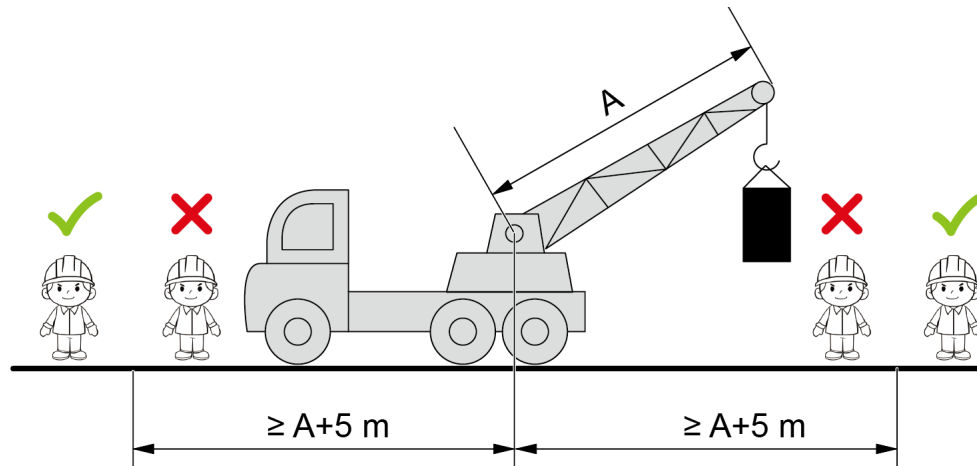

Fig. 3-1 Crane lifting
- Unauthorized personnel are strictly prohibited from entering the exclusion zone. As shown in Fig. 3-1, the radius must be $R \geq A + 5 \text{ m}$. Standing or walking under the crane boom or the suspended load is strictly forbidden.